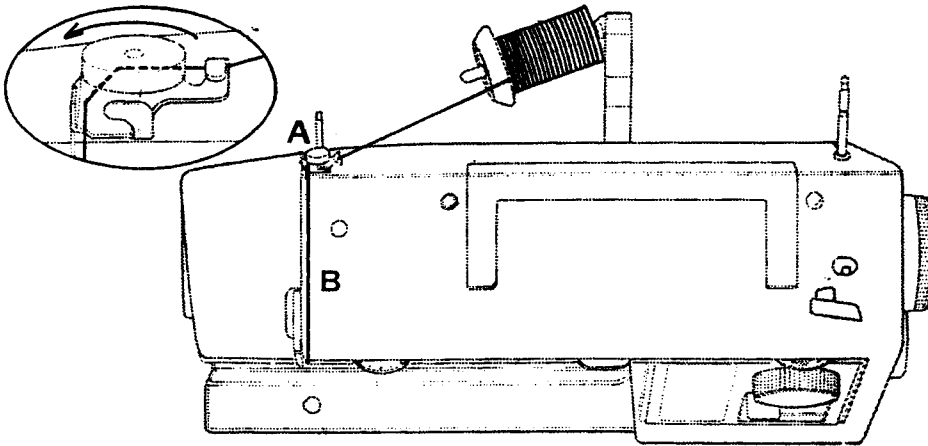

Fig. 1
Draw thread through rear thread guide (A) and into threading channel (B) toward you. (Fig. 1)